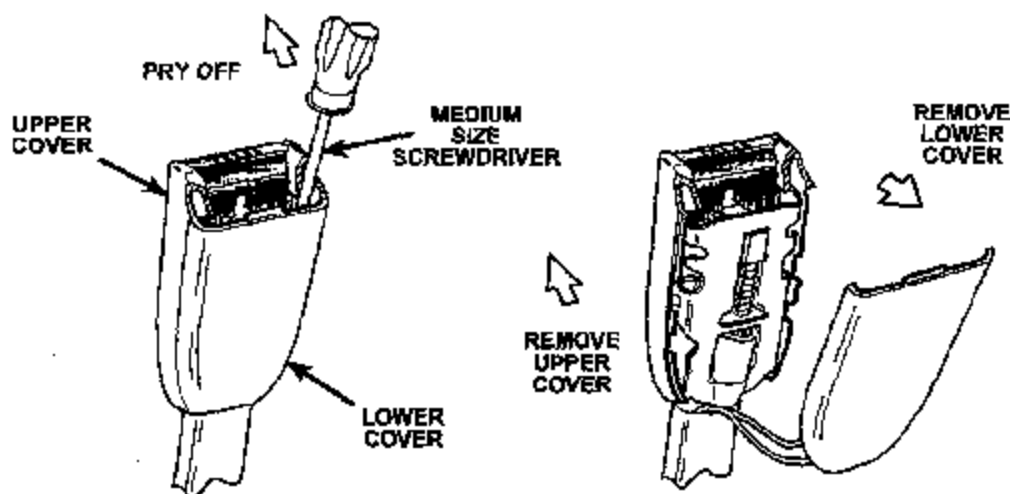

Figure 3
5. Remove the lower buckle cover by inserting a medium size screwdriver into the holes created in the upper cover in Step 4 and prying the bottom cover off (Figure 3). Pry with the screwdriver blade against the lower cover being careful not to damage the buckle mechanism.